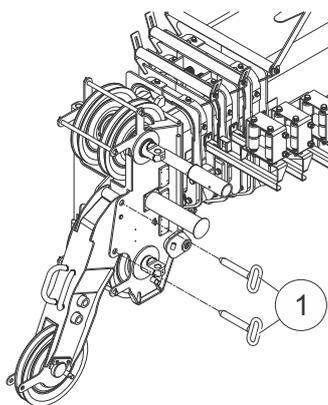

Fig. 245 Bolting the auxiliary jib to the telescopic boom
| 7 | Insert the bolts (1) in Fig. 245 and secure with retaining springs. |